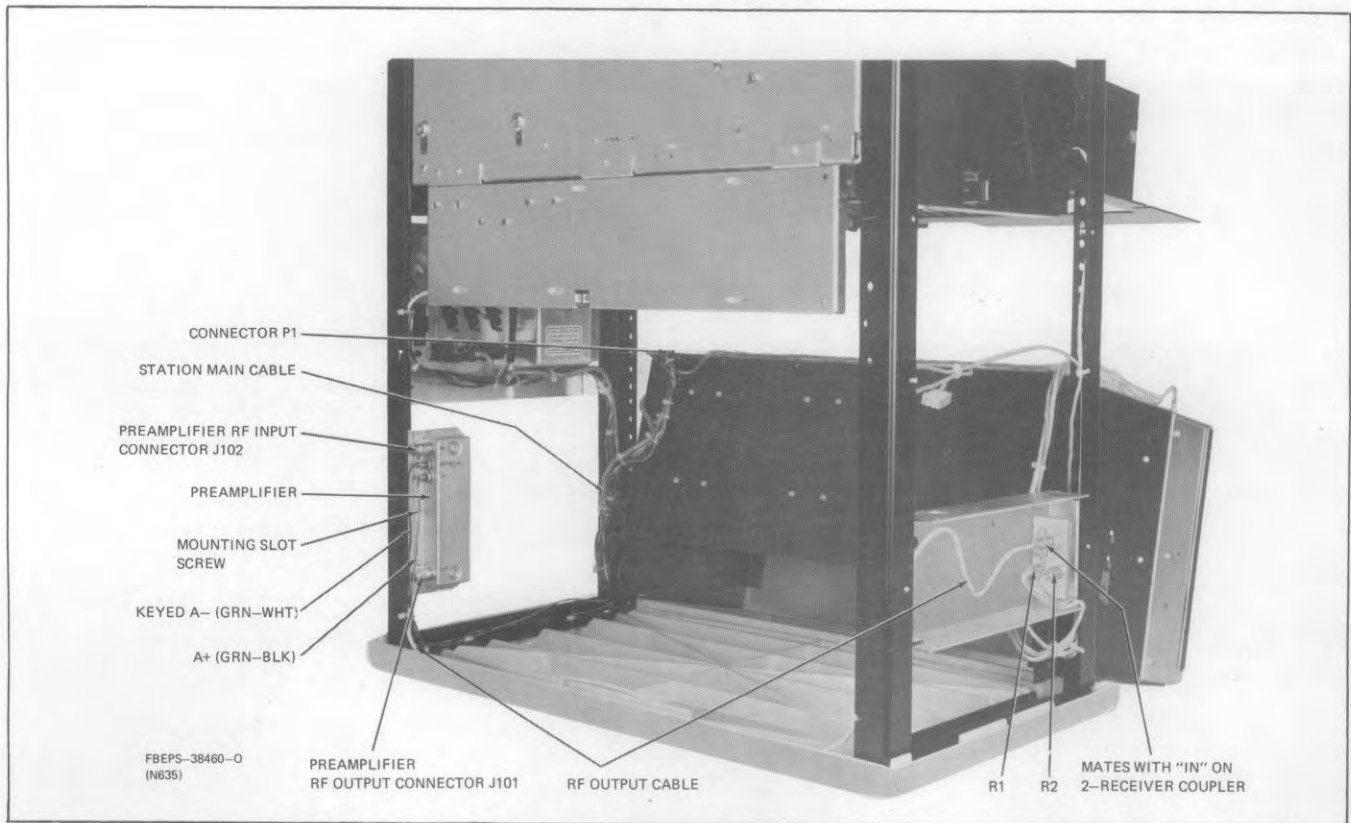

Figure 4. 2-Receiver Base Station
- Route preamplifier rf output cable along the back of the station and connect the phone plug at the end of the cable into the 2-receiver coupler IN jack, as shown in Figure 4.